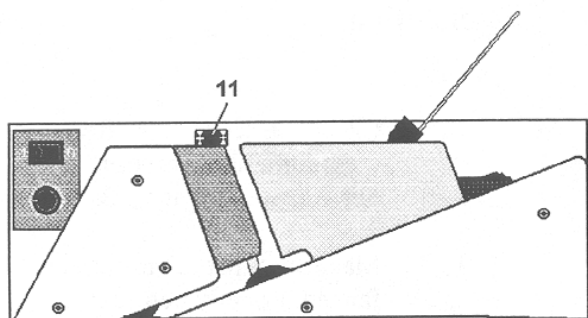

Fig. 6.2a
See Fig. 6.2a
See Page 6.2, Fig. 6.2a.
- 4a. Turn the Label Positioning Knob (7) to a lower setting. This will increase the amount of tab on top of the mail piece. See Page 6.2, Fig. 6.2a.